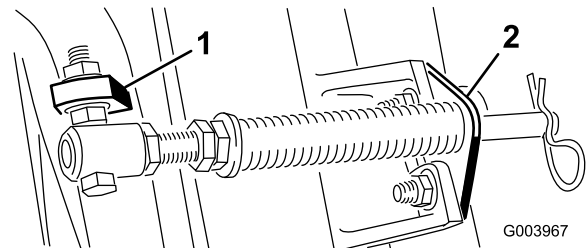

Figure 5
- D. Mount the rod bracket to the cutting unit tabs with the carriage bolts and nuts (Figure 5).